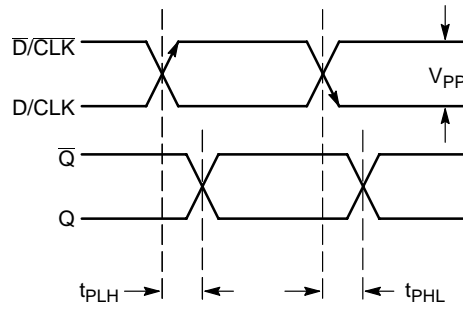

Figure 5. AC Reference Measurement
23. See Figure 5. $t_{SKEW} = |t_{PLH} - t_{PHL}|$ for a nominal 50% Differential Clock Input Waveform.